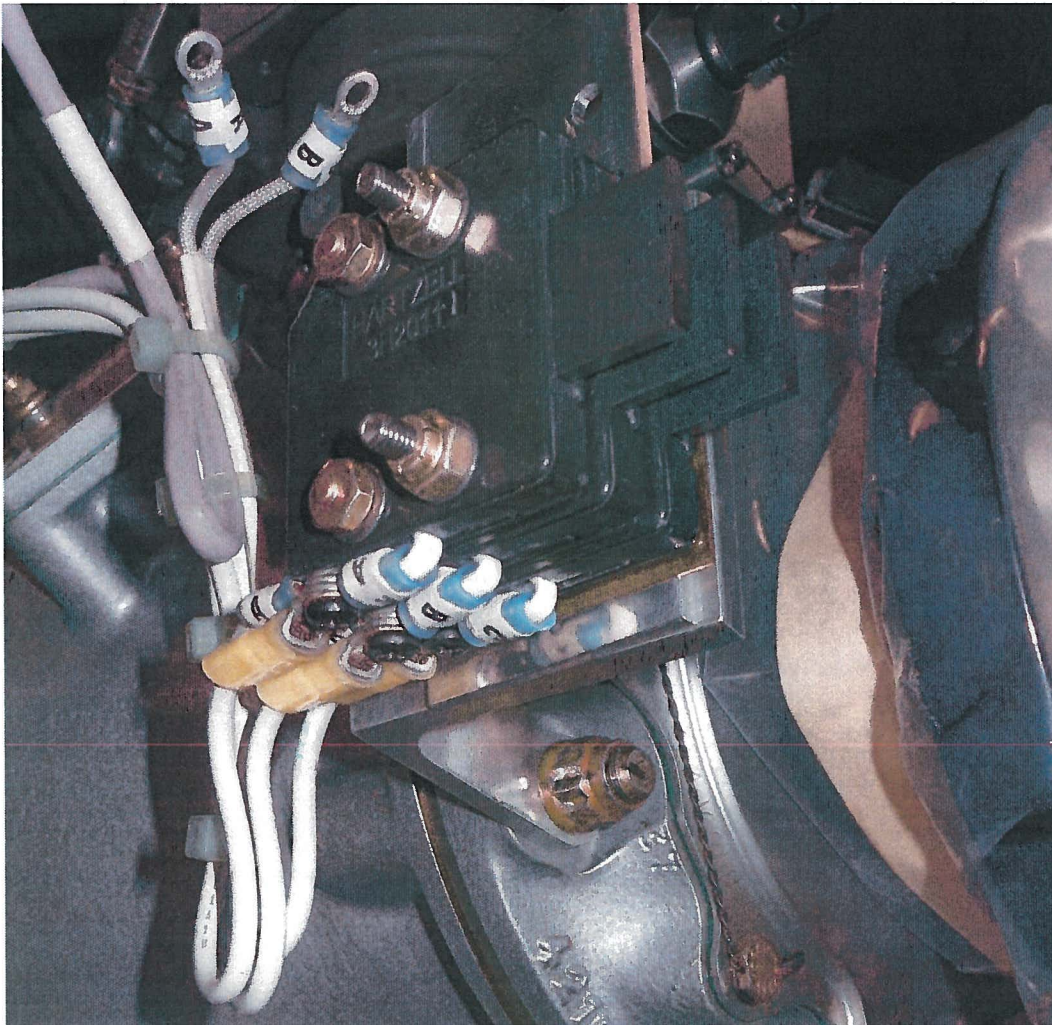

Figure 5
- f) Attach short wire harness connecting MOV module assembly (P/N 4H3076-3) to de-ice brush block as shown in Figure 5 (shown without MOV module in this view). Simultaneously attach the aircraft wires to the brush block module as follows: